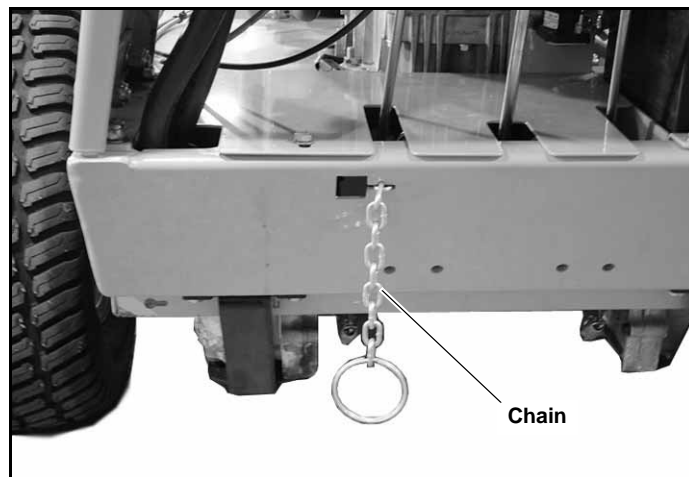

Figure 3-6
**To disengage** the pump clutch, **pull the chain** (Figure 3-6) until the tension is released from the pump drive belt and latch in the slot. Figure 3-6